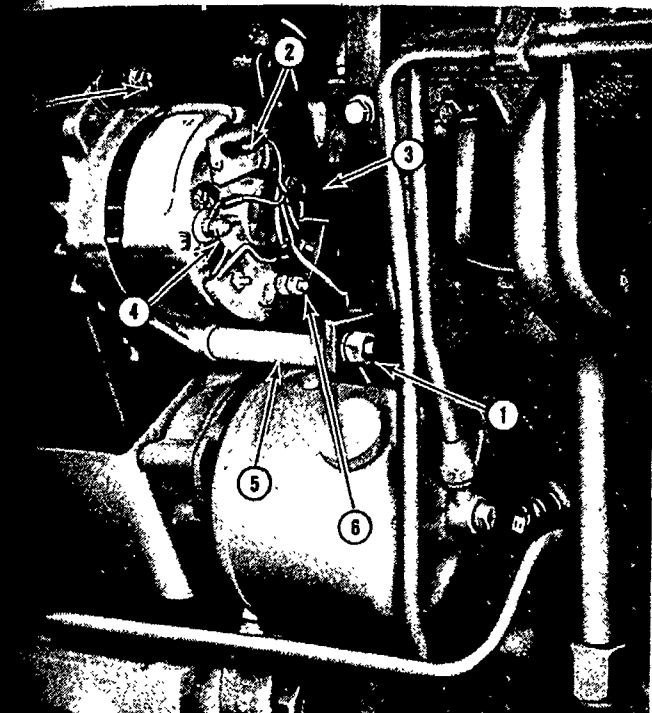

Figure 30
2. Disconnect all wires from the alternator, Figure 30.